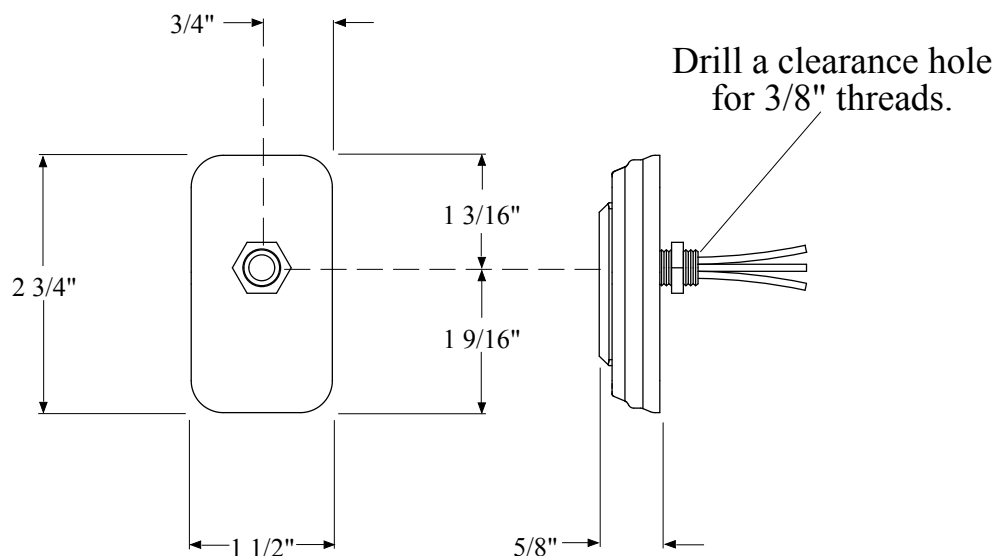

Figure 2. Cab Miniature Display Mounting Dimensions
1. Measure and mark mounting location for cab miniature display mounting hole. Make sure there is clearance behind the panel before drilling hole. Refer to Figure 2 for layout and dimensions.